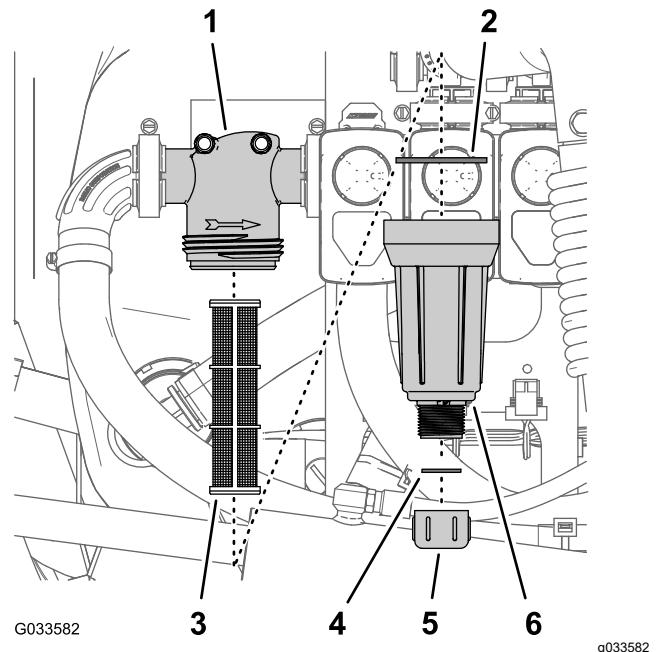

Figure 96
3. Rotate the drain cap counterclockwise and remove it from the bowl of the pressure filter (Figure 96).
4. Rotate the bowl counterclockwise and remove the filter head (Figure 96).
5. Remove the pressure filter element (Figure 96).
7. Check the gasket for the drain plug (located inside the bowl) and the gasket for bowl (located inside the filter head) for damage and wear (Figure 96).
8. Install the pressure filter element into the filter head (Figure 96).
9. Install the bowl onto the filter head, and tighten by hand (Figure 96).
10. Assemble the drain cap onto the fitting at the bottom of the bowl, and tighten the cap by hand (Figure 96).